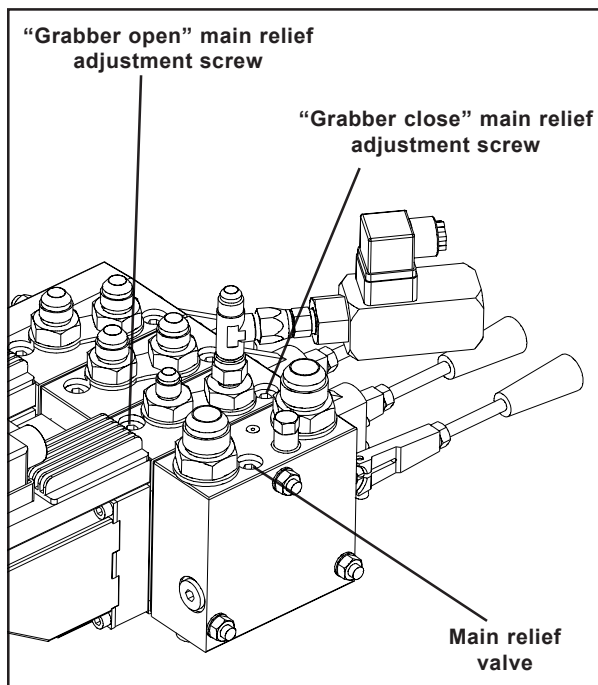

Figure 2.9
9. Adjust the relief valve for the "grabber close" side of the valve section (Figure 2.9) at 1200PSI (screw or unscrew depending on the gauge readout).